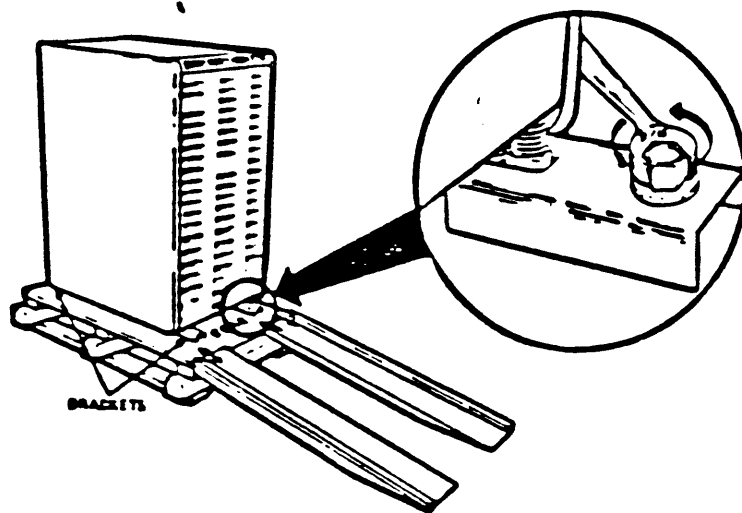

Figure 2-19. Remove the Shipping Brackets from the Leveling Feet.
Step 6: Use the 9/16 wrench to remove the four shipping brackets from the leveling feet as shown in Figure 2-19.